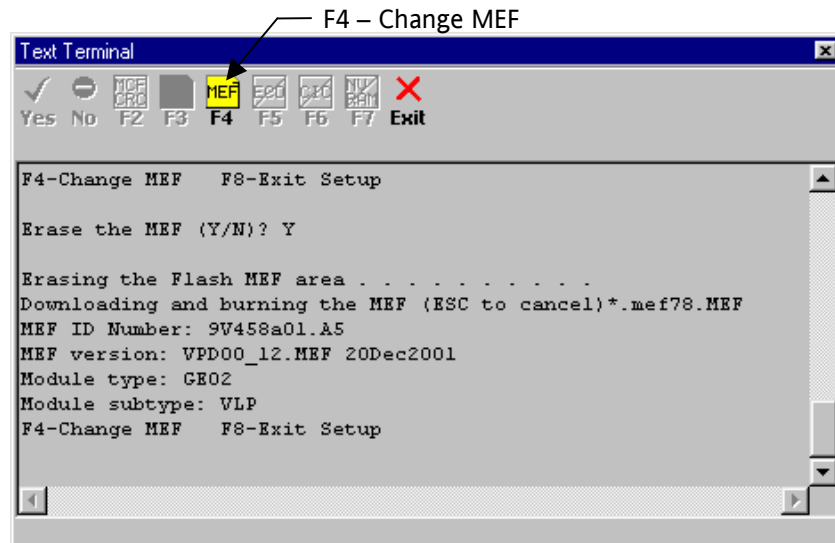

Figure 3-8
5. A boot screen similar to figure 3-8 appears. Notice that all Function Key options are disabled except for **F4** (Change MEF) and the **Exit** button (F8).